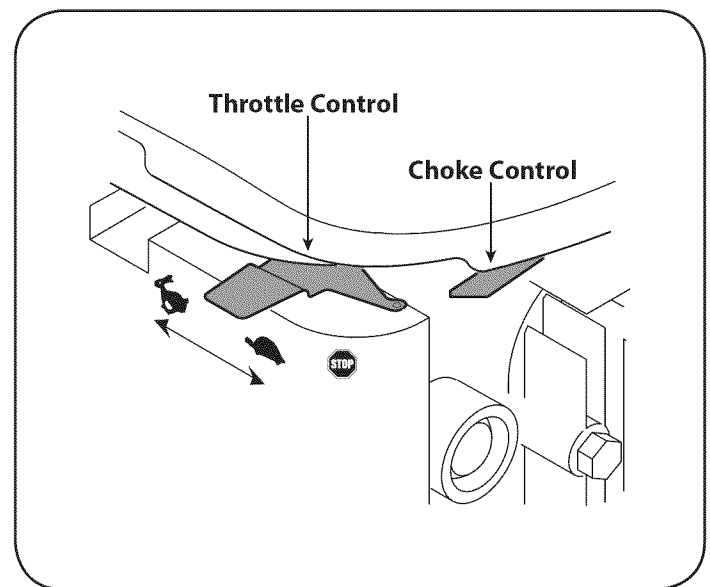

Figure 14
1. Move throttle control to the FAST (Rabbit)  position. See Figure 14.
2. Move the choke control to the CHOKE  position (A warm engine may not require choking.) See Figure 14.